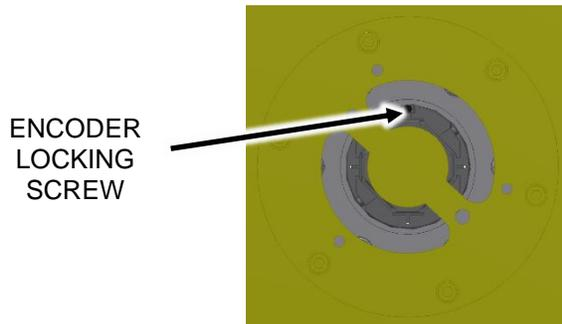

Figure 19
2. Rotate the machine so that the encoder locking screw is visible from the access port on the encoder mounting plate, as shown in Figure 19.